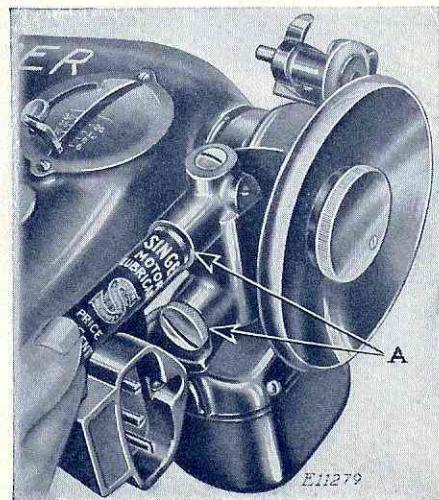

FIG. 29. LUBRICATING THE MOTOR
When the machine is shipped from the factory, the two motor grease cups (A, Fig. 29) are filled with sufficient SINGER MOTOR LUBRICANT for approximately one year's use, under ordinary circumstances.
At least once a year thereafter, turn the machine back on its hinges and remove the two thumb screws from the two grease cups (A) and clean out the interior of the cups. Then insert the tip of the motor lubricant tube into the grease cups as shown in Fig. 29 and, while holding the tube firmly against the bottom of the grease cups, squeeze about a quarter of a tube of the lubricant into each cup, then replace and tighten the thumb screws.